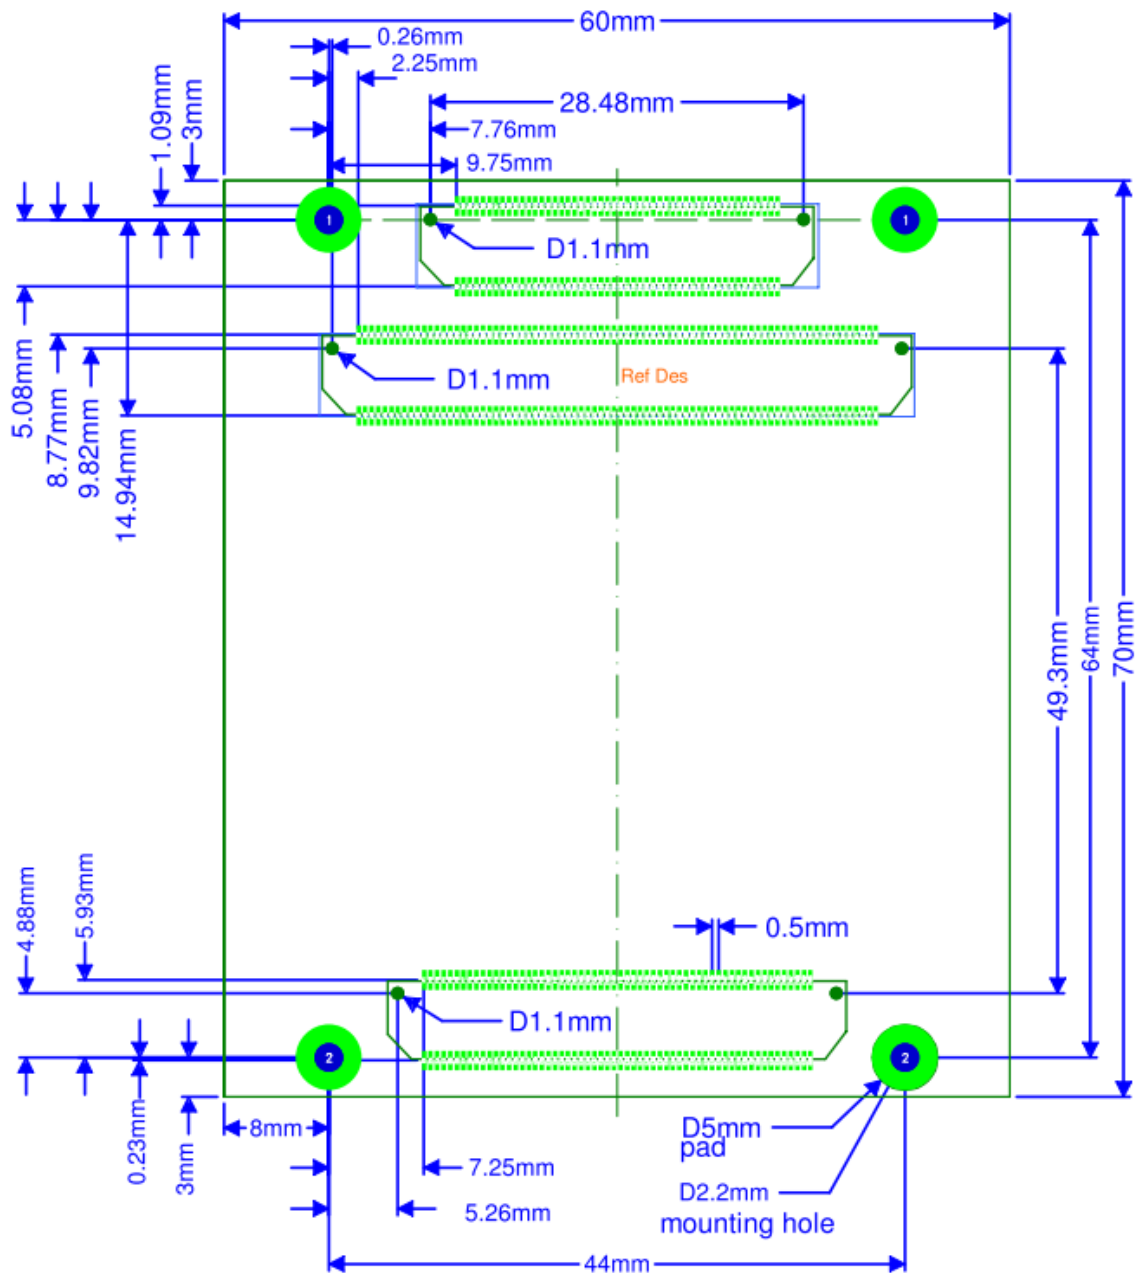

Figure 12: Footprint of the phyFLEX-i.MX 6
3. the link “Carrier Board” within the category Dimensional Drawing leads to the layout data as shown in *Figure 12*. It is available in different file formats. Use of this data allows to integrate the phyFLEX-i.MX 6 SOM as a single component into your design.